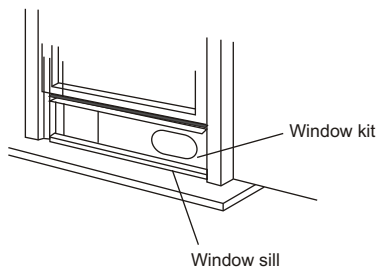

Fig.12
3. Cut the foam seal(adhesive type) to the proper length and attach it on the top of the window. Show as in Fig.12